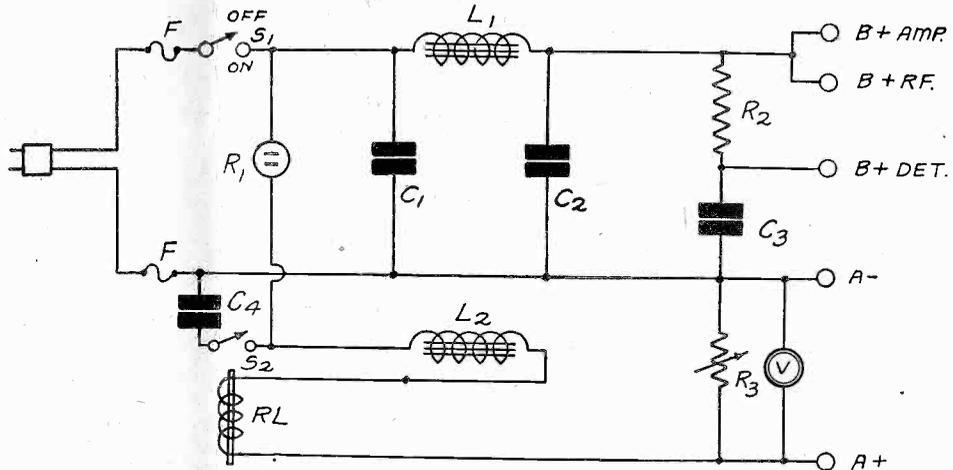

FIG. 716
(1)—See Fig. 716 for such a circuit.